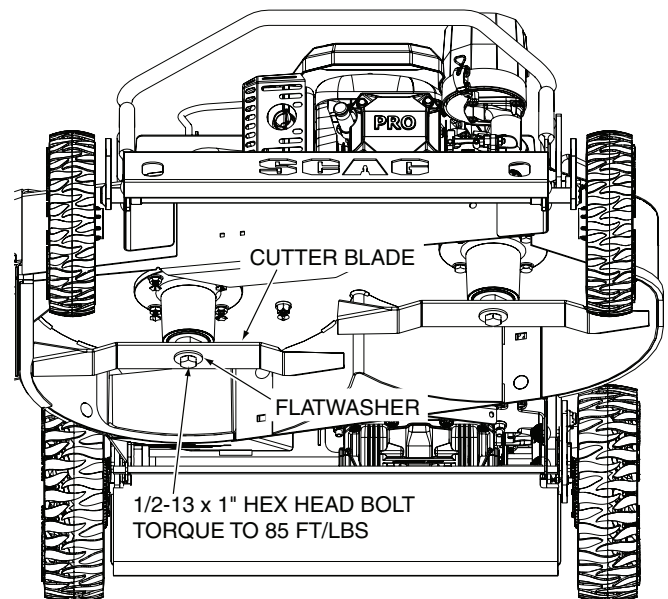

Figure 7-7. Blade Replacement
4. Secure the cutter blades to prevent them from rotating, (use the optional Blade Buddy tool P/N 9212, to assist in securing the cutter blades), remove the blade attaching bolt. Remove the cutter blade, bolt and flatwasher from the spindle shaft. See Figure 7-7.
6. Install the cutter blade onto the cutter spindle shaft. Secure the blades from rotating and torque to 85 ft/lbs. See Figure 7-7.